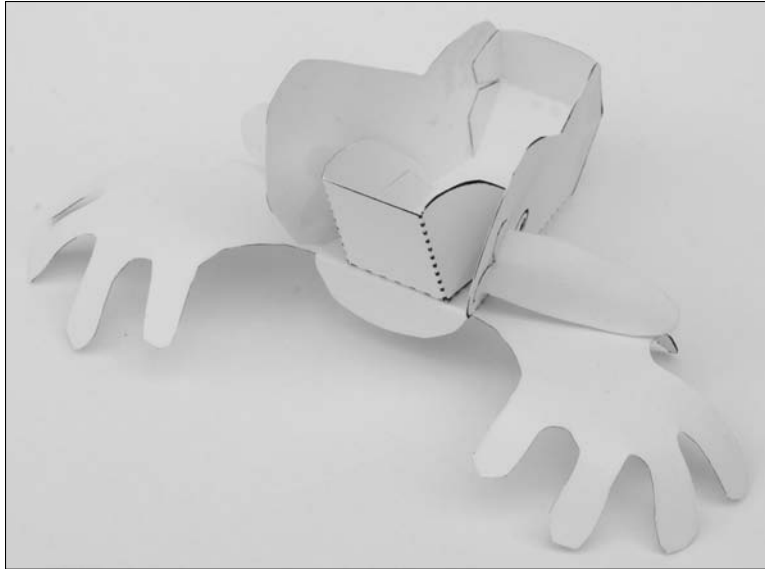

Figure 11-8:
4. Assemble the bell crank and glue it inside the head (refer to Figure 11-8).